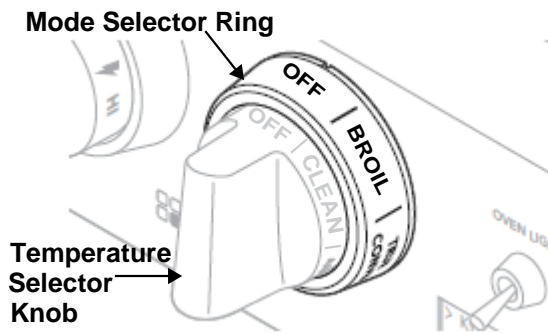

Figure 31: Mode Selector Ring & Temperature Knob
2. Turn the Temperature Selector Knob (see Figure 31 on Page 27) to desired selection.
2. Set Mode Selector Ring (Figure 31) to Bake, Convection Bake, Roast, or Convection Roast.